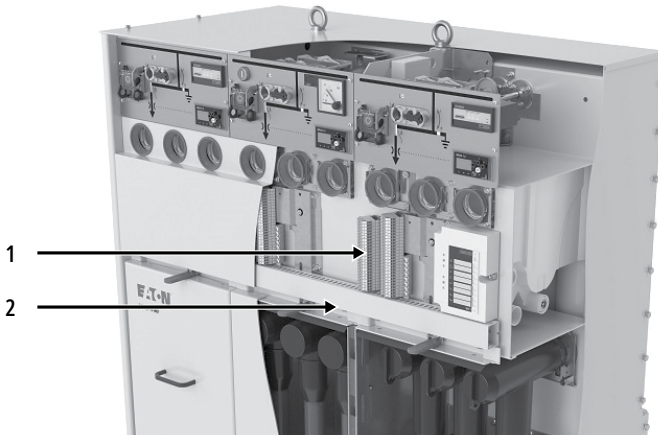
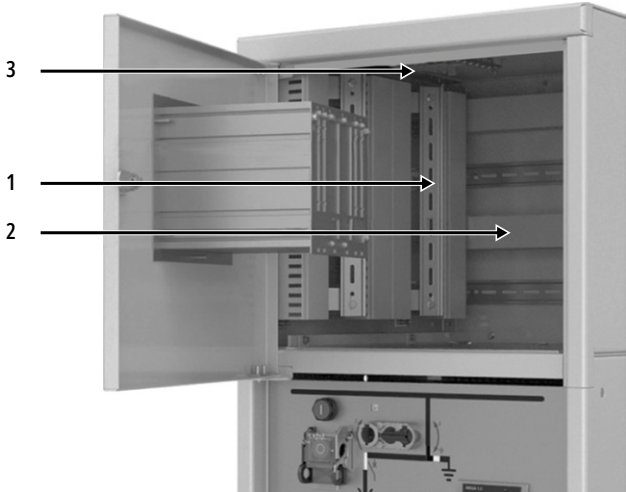

Figure 5-1: Front cover and secondary compartment with cable duct and terminal strips
Figure 5-2: Top Unit
The secondary compartment is located behind the front cover (see figure 5-1) and includes a cable duct (2) and secondary terminal strip (1). A top unit (see figure 5-2) can be located on top of the switchgear for additional auxiliary components and includes DIN-rails (1) and cable ducts (2).